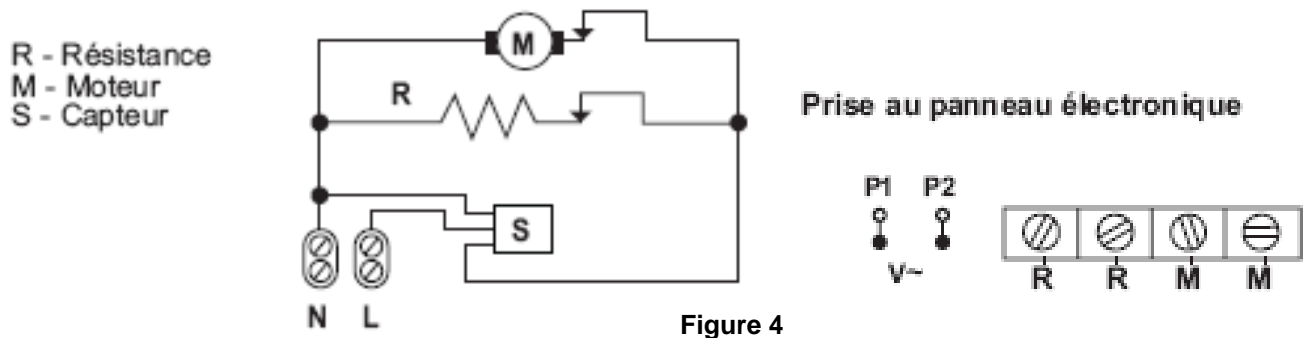

Figure 4
- Place base plate on wall (Fig.4).